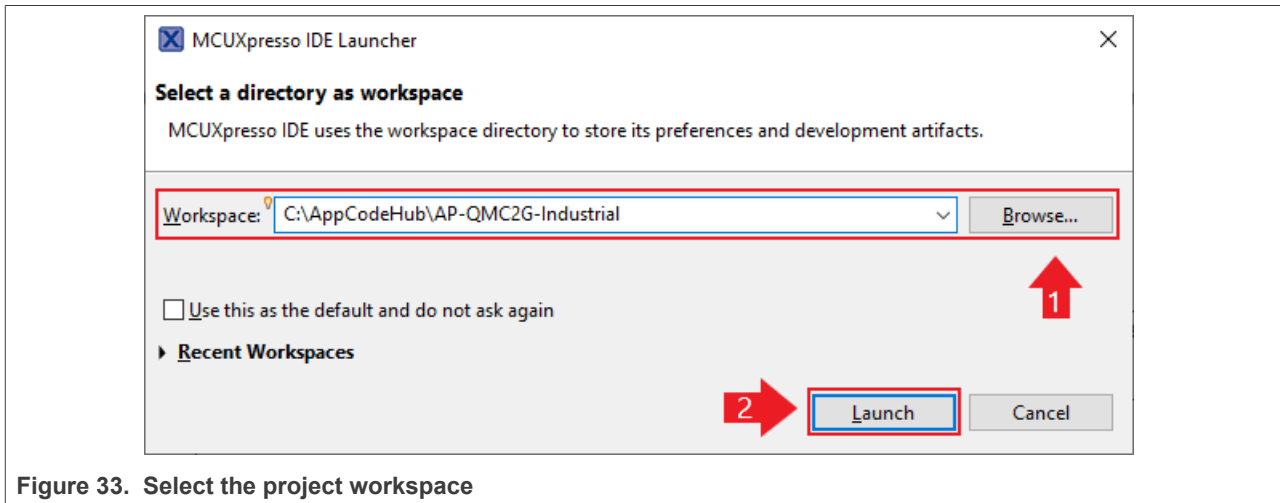

Figure 33. Select the project workspace
1. Launch the MCUXpresso IDE. When you are prompted to select the workspace, do as shown in Figure 33:
- (1) Choose an existing workspace where you will import the project or create a new workspace.
**Note:** The name of your folder may be different from the one shown in Figure 33.
- (2) Click the **Launch** button to open the selected workspace.